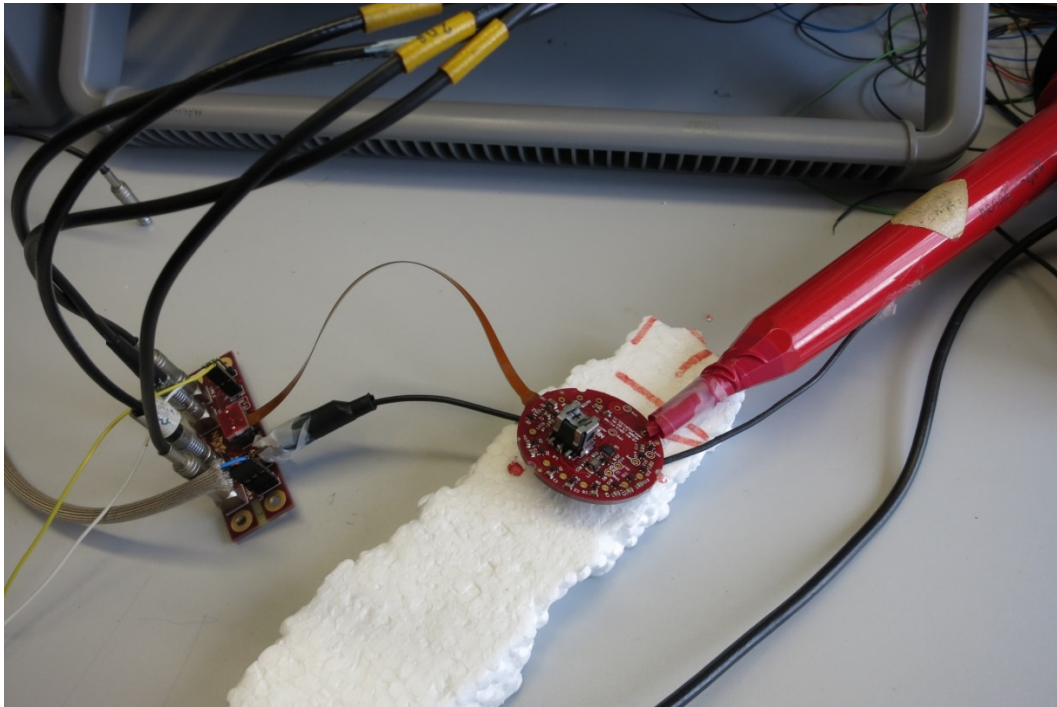
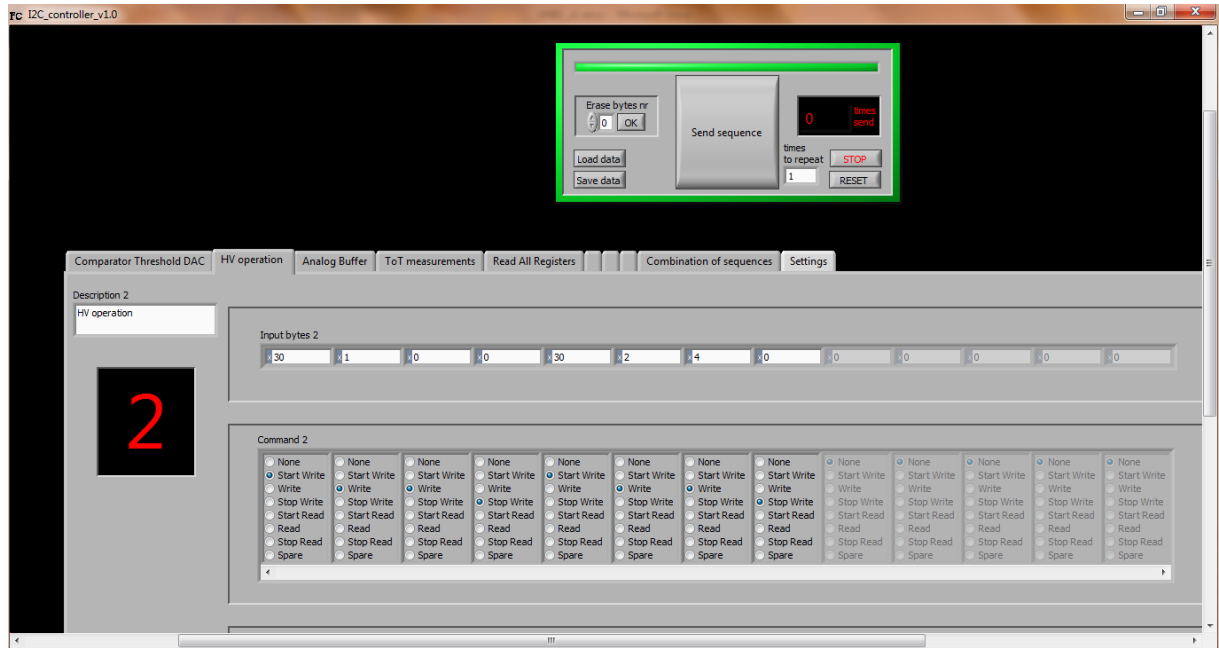

Figure 7 Measuring HV on the cathode using a HV probe.
Figure 8 Labview program to turn on the HV and set the HV.
2. Communicate using I²C values to make high the 'HVonoff' bit in the control register i.e. set control register (Pointer2) to 0x04 hex value using I2C (Figure 7 and Figure 8). ⚡